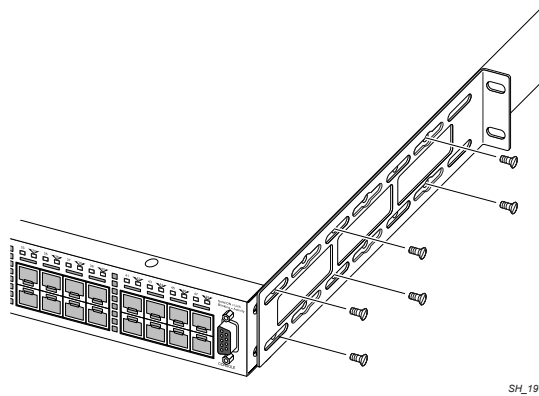

Figure 221: Attaching a Rack-mounting Flange
- 2 On one side of the switch, set the bracket against the switch housing, with the flange toward the back of the switch (see Figure 221: Attaching a Rack-mounting Flange on page 256).